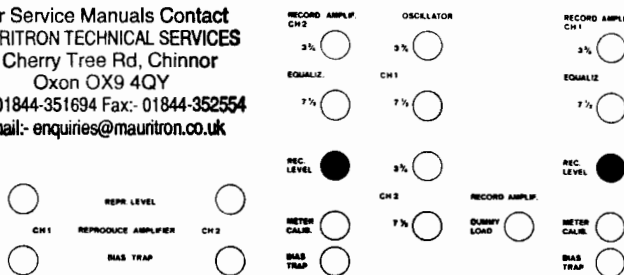

Fig. 6.5-72
- Switch to NAB and adjust REC LEVEL trimpots ( fig. 6.5-72 ) to obtain 200 mV at OUTPUT terminal, playback mode switch to CH 1 or CH 2 respectively.